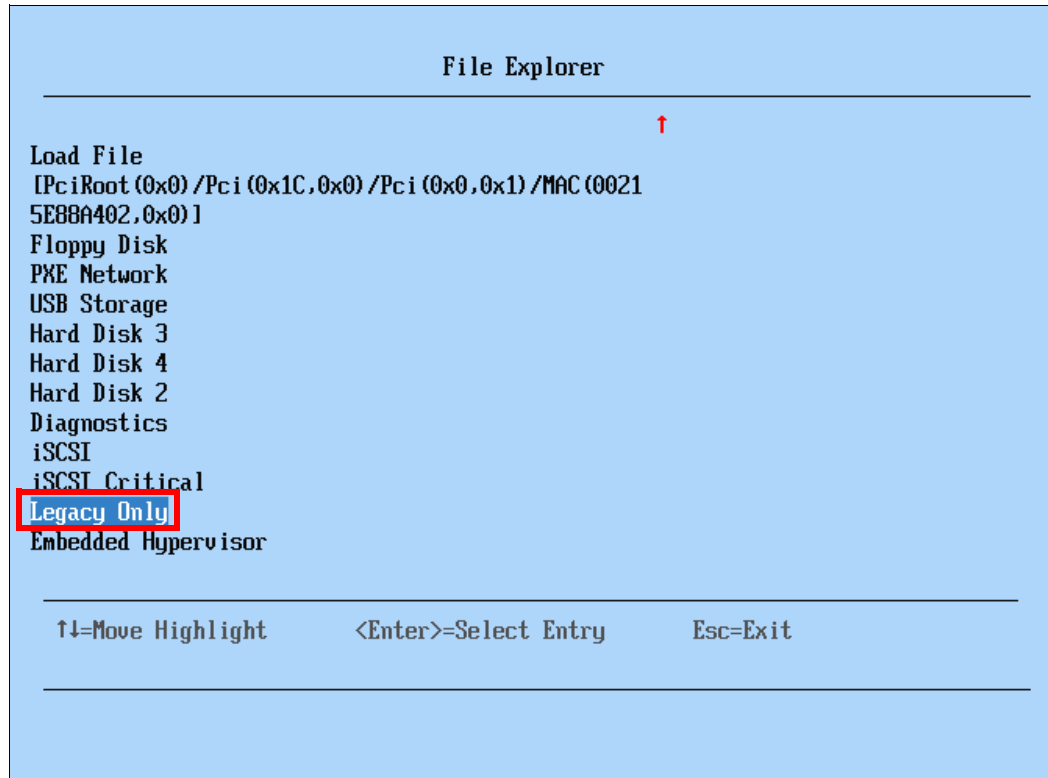

Figure 8-21 Legacy Only option in the boot list
4. Select **Legacy Only**, as shown in Figure 8-21, and press Enter. The selection disappears when selected. If this option is not available, the Legacy Only option might already be part of the boot list.